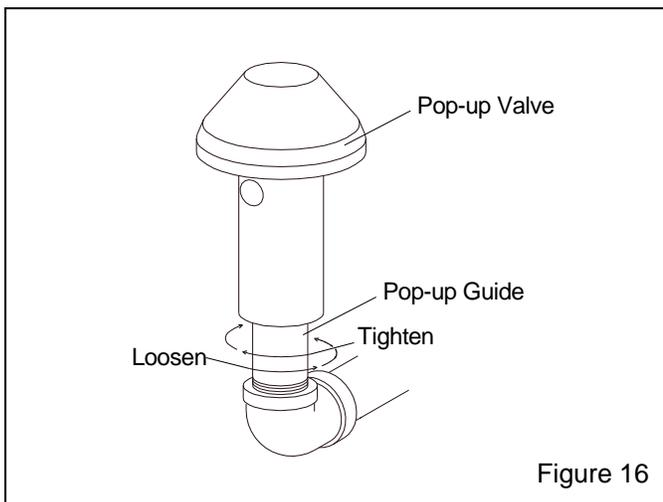

Figure 16
6.8 Replacing the Pop-Up Valve, Figure 16